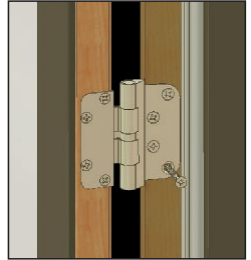

FIG. 20
- A) Apply the supplied # 12 x 2-1/4" screws through each hinge securing the hinges and frame to the rough opening. Additional shims are required behind each hinge. (Fig. 20)